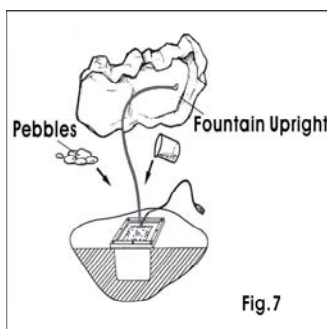

Fig.7
- Place the Fountain Upright in the desired location. Dig a groove to lay the Water Supply Tube. (Note: Do not pinch the Water Supply Tube). Fill the PVC Liner Basin with clean water. The water level should be approximately 1.18 in below the underside of the Lid. For beautification, place pebbles on the Lid (Fig. 7).